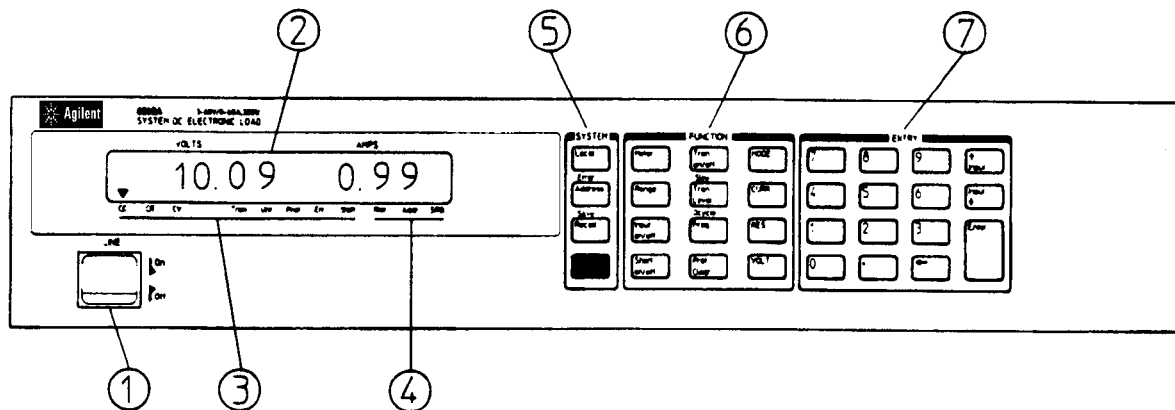

Figure 4-1. Front Panel
The Electronic Load can be programmed locally using the controls and indicators on the front panel. As shown in Figure 4-1, the front panel’s controls and indicators include a 12-segment LCD display and a keypad having three groups of keys (SYSTEM, FUNCTION, and ENTRY). Table 4-1 gives a brief description of each control and indicator.
<p>3 Electronic Load Status Annunciators</p>	<p>CC-Indicates the Electronic Load is in the constant current (CC) mode. Note that Figure 4-1 shows the Electronic Load is in the CC mode (CC annunciator is on).</p> <p>CR-Indicates the Electronic Load is in the constant resistance (CR) mode.</p> <p>CV-Indicates the Electronic Load is in the constant voltage (CV) mode.</p> <p>Tran-Indicates that transient operation is enabled.</p> <p>Unr-Indicates that the Electronic Load is unregulated (applies only in the CC mode and in the middle and high ranges of the CR mode).</p> <p>Prot-Indicates when any protection features (CC, OV, OP, OT, etc.) are active.</p> <p>Err-Indicates that remote programming error(s) have occurred.</p> <p>Shift-Indicates that the shift key, bottom key (blue) in SYSTEM group, was pressed.</p>